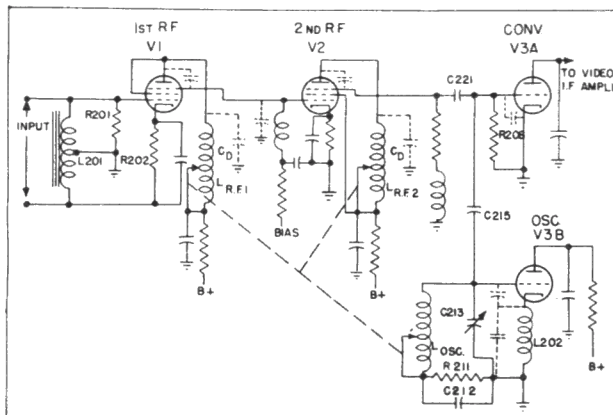

Fig. 2. R-F Amplifier, Converter, and Oscillator
1. R-F AMPLIFIER, CONVERTER AND OSCILLATOR (SEE FIGURE 2).